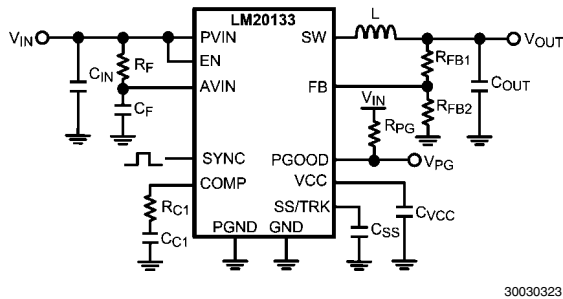

FIGURE 2. Typical Application Circuit
The LM20133 switching regulator features all of the functions necessary to implement an efficient low voltage buck regulator using a minimum number of external components. This easy to use regulator features two integrated switches and is capable of supplying up to 3A of continuous output current. The regulator utilizes peak current mode control with nonlinear slope compensation to optimize stability and transient response over the entire output voltage range. Peak current mode control also provides inherent line feed-forward, cycle-by-cycle current limiting and easy loop compensation. The internal oscillator can synchronize up to 1.5 MHz minimizing the inductor size while still achieving efficiencies up to 96%. The precision internal voltage reference allows the output to be set as low as 0.8V. Fault protection features include: current limiting, thermal shutdown, over voltage protection, and shutdown capability. The device is available in the eTSSOP-16 package featuring an exposed pad to aid thermal dissipation. The LM20133 can be used in numerous applications to efficiently step-down from a 5V or 3.3V bus. The typical application circuit for the LM20133 is shown in *Figure 2*.
This section walks the designer through the steps necessary to select the external components to build a fully functional power supply. As with any DC-DC converter numerous trade-offs are possible to optimize the design for efficiency, size, or performance. These will be taken into account and highlighted throughout this discussion. To facilitate component selection discussions the circuit shown in *Figure 2* below may be used as a reference. Unless otherwise indicated all formulas assume units of amps (A) for current, farads (F) for capacitance, henries (H) for inductance and volts (V) for voltages.
To prevent high frequency noise spikes from disturbing the sensitive analog circuitry connected to the AVIN and AGND pins, a high frequency RC filter is required between PVIN and AVIN. These components are shown in Figure 2 as C_F and R_F . The required value for R_F is 1Ω. C_F must be used. Recommended value of C_F is 1.0 μF. The filter capacitor, C_F , should be placed as close to the IC as possible with a direct connection from AVIN to AGND. A good quality X5R or X7R ceramic capacitor should be used for C_F .